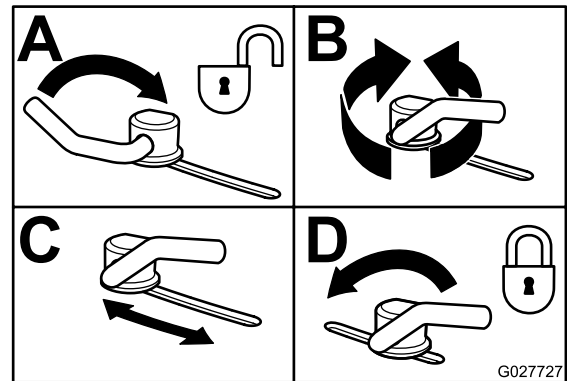

Figure 30
- To adjust the cam locks, swing the lever up to loosen the cam lock (**Figure 30**).
- Swing the lever back over to tighten the baffle and cam locks (**Figure 30**).